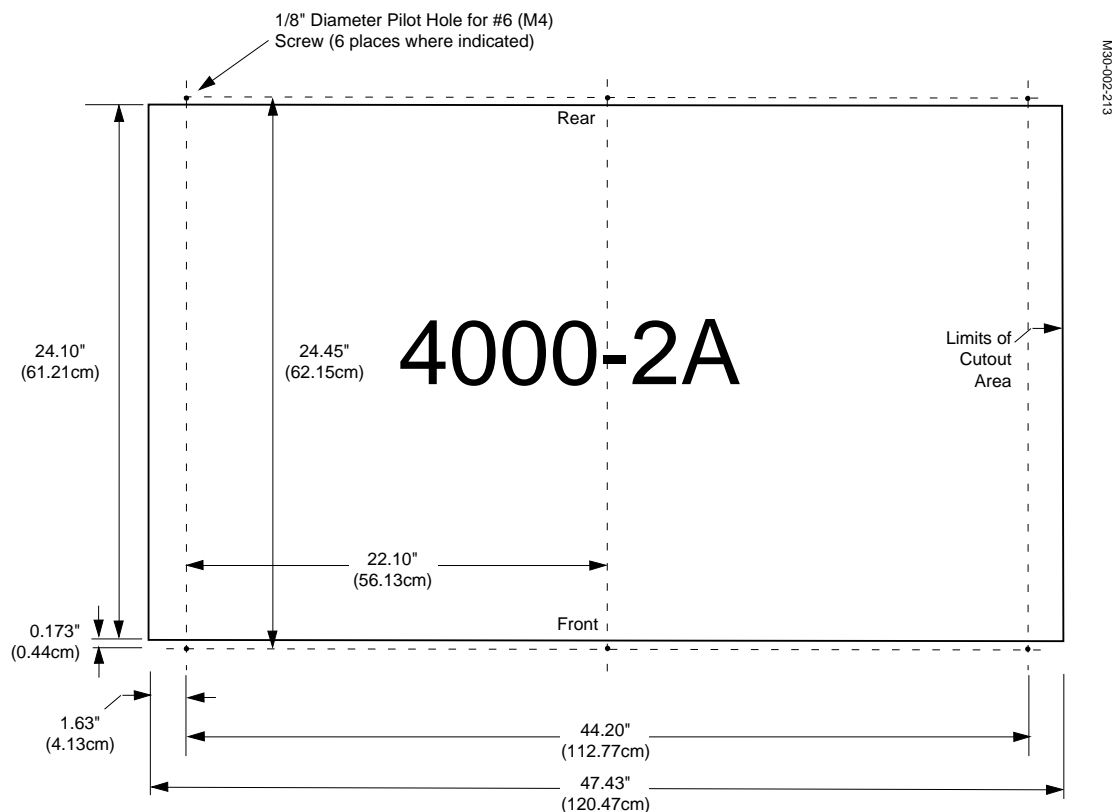
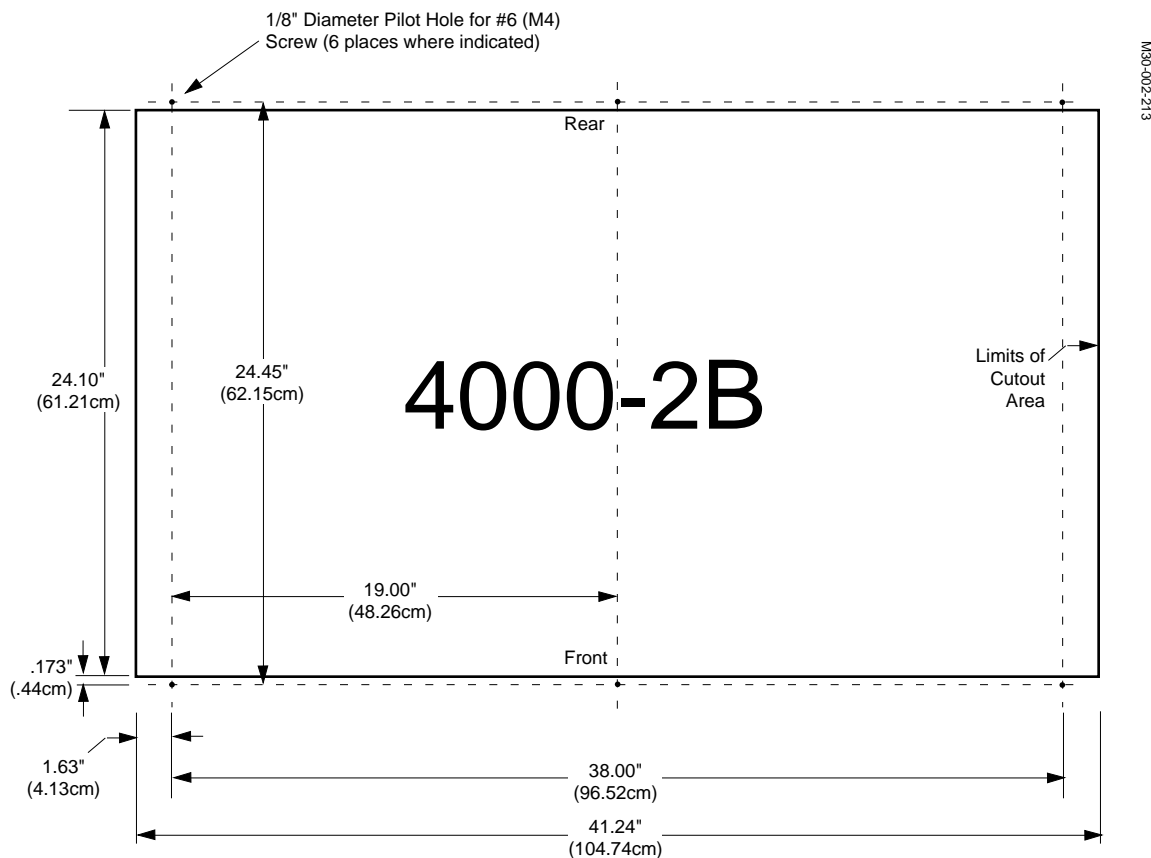

Figure 2-2. Model 4000-2 A Control Panel Console Cutout Dimensions
Figure 2-3. Model 4000-2 B Control Panel Console Cutout Dimensions
Physical dimensions for the Model 4000, shown in Figure 2-1, are provided to assist you in the installation. Power requirements are listed in Figure 2-2 and environmental characteristics are listed in Figure 2-3.
Power requirements for the Model 4000 Control Panel and Signal Processing Frames are listed in Figure 2-2. The Frame is shipped from the factory configured for 220 VAC operation.
The Model 4000 has been designed to operate efficiently in environments outlined below in Figure 2-3.
1. Using the dimensions shown in Figure 2-2, make cutouts in the console to accommodate the Model 4000-2A Control Panel.
1. Using the dimensions shown in Figure 2-3, make cutouts in the console to accommodate the Model 4000-2B Control Panel.